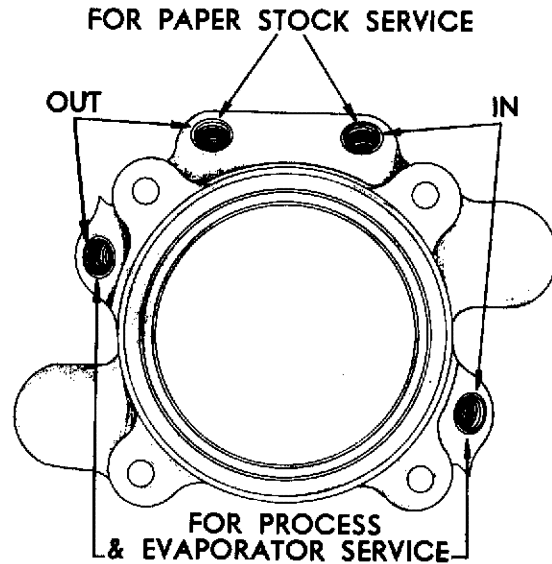

Figure 20A
24. If unit requires stuffing box packing, refer to section II-C and pack as directed. Refer also to Fig. 20A for alternate methods of packing.
The standard stuffing box cover has four pipe taps for sealing or flushing liquid to the packing or mechanical seal. Two are used for in and out connections to the throat of the stuffing box for paper stock services with the lantern ring positioned next to the stuffing box throat bushing. Two are alternately used for evaporator or chemical services as in and out connections. Figure 20A shows a stuffing box and location of holes, and the holes used for evaporator service and paper stock service.